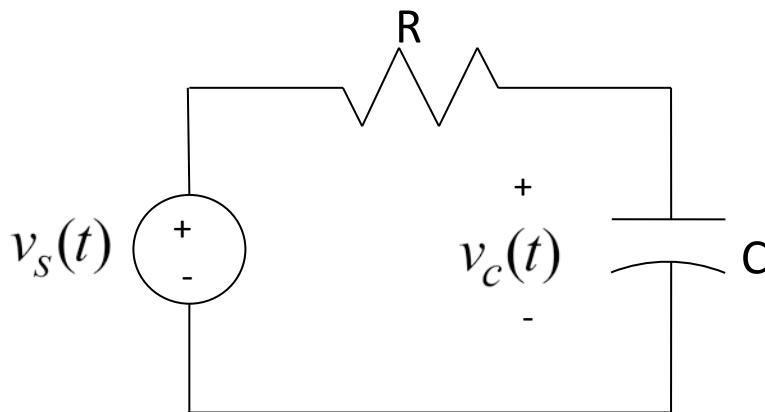

Figure 1. Circuit for PART 1.
2) Using a bread board construct the circuit shown in Figure 1 using your $1 \mu\text{f}$ capacitor and a $1 \text{ k}\Omega$ resistor. These components should be available in your lab kit. We will measure the output of the circuit as the voltage across the capacitor. We will be trying to estimate the time constants for this circuit as we vary the resistance. The time constant for this circuit is $\tau = RC$, and we will measure the time constant by determining the 10%-90% rise time, t_r , and using the formula